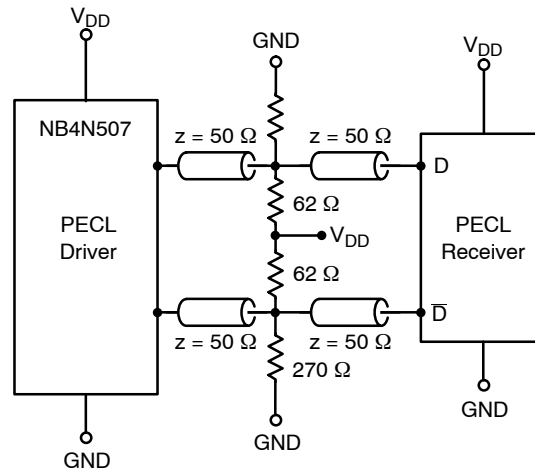

Figure 4. Recommended PECL Output Loading for the NB4N507A
5. PECL outputs loaded with external resistors for proper operation (see Figure 4).